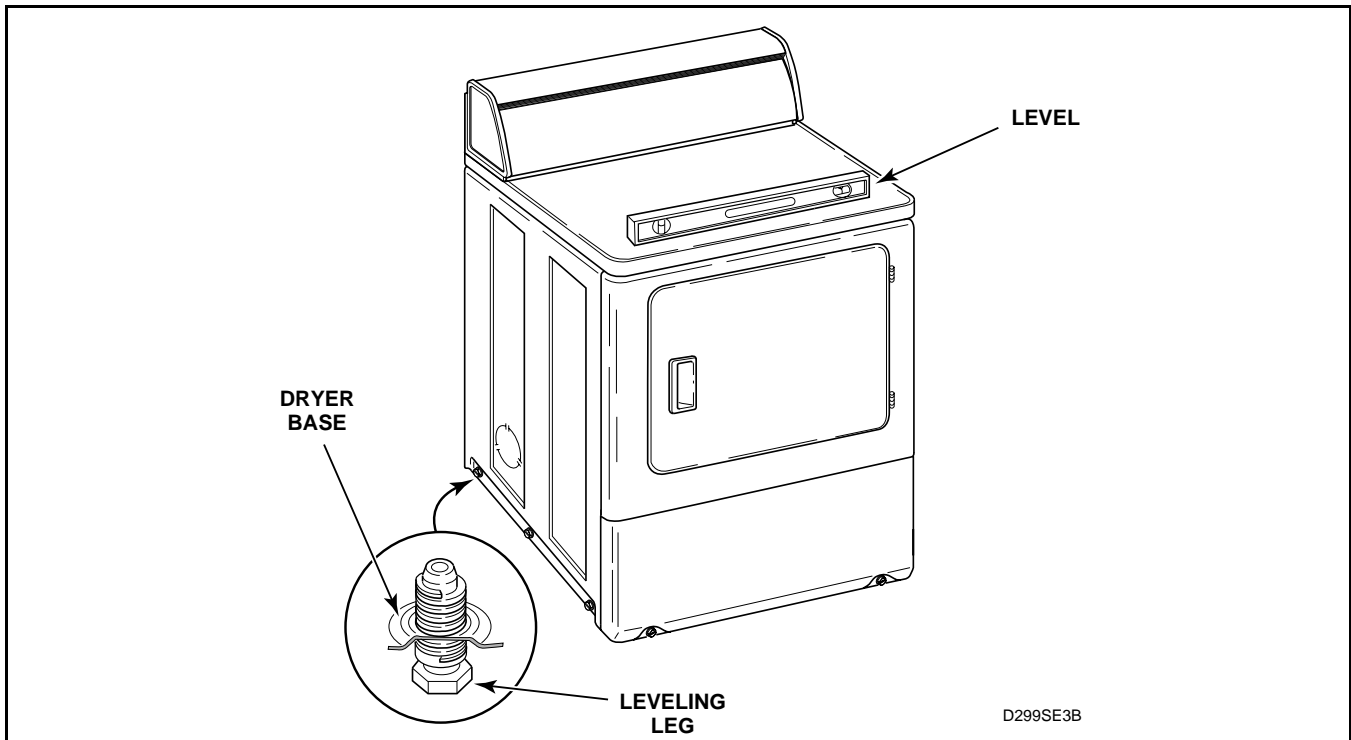

Figure 37
- p. Remove leveling legs from base and reinstall on new base. See *Figure 37*.
(Figure 37)